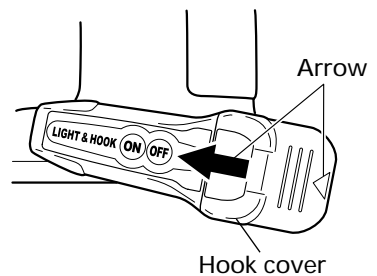

Fig. 15
Remove the hook cover by pushing in the direction of the arrow. (Fig. 15)
- (3) Align the indentation in the hook main body with the protuberance of the hook cover, press the hook cover in the direction opposite to that of the arrow shown in Fig. 15 and then tighten the screw.